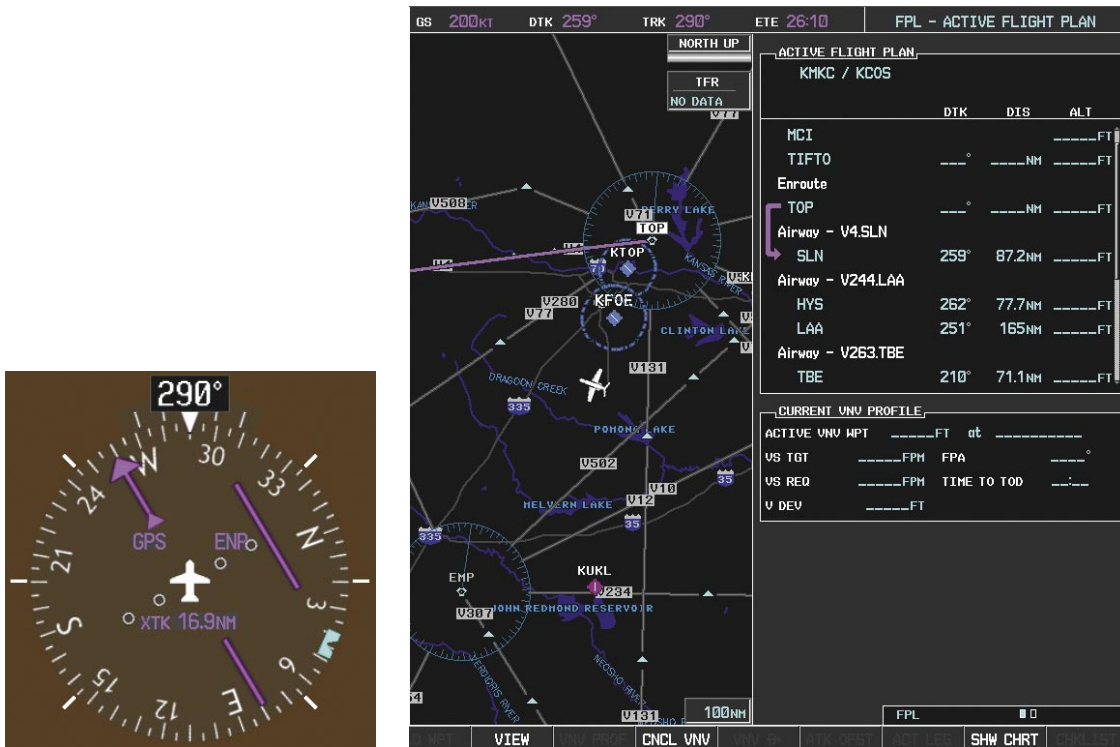

Figure 5-112 V4 Now Active Leg
d) Verify the displayed leg is the desired leg and press the **ENT** Key. Note in Figure 5-112, the magenta arrow in the flight plan window and magenta line on the map indicating V4 is now the active flight plan leg.